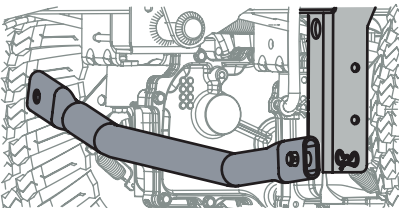

Figure 45
- Remove the bow-tie cotter pin on the left side of the bar, connecting the bar with the bracket on the frame (Figure 45).